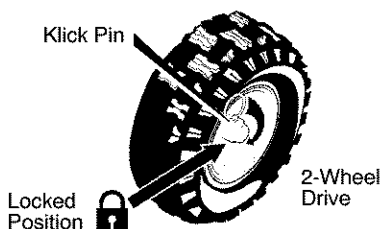

Figure 10
1. The right hand wheel is secured to the axle with a **klick pin**. This unit was shipped with this klick pin in the **locked position** (through wheel hole). See Figure 10.